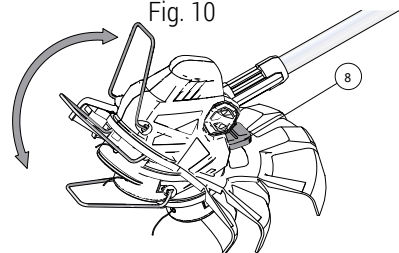

Fig. 11
– FIG. 11
- Whilst holding the shaft, push and hold the cutting head angle adjustment lever (8).